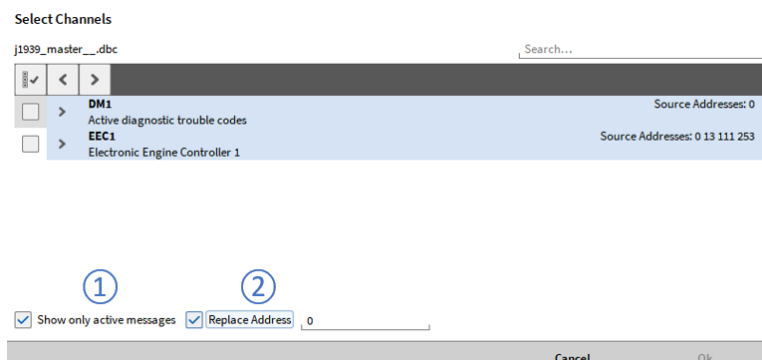

Fig. 7.197: Channel picker for SAE J1939 messages and signals
If a dbc- or arxml file is loaded that contains J1939 messages, the source Address will be displayed when Show only active messages is activated (see ① in Fig. 7.197). By Selecting Replace Address it is possible to replace the current source address of the dedicated mes- sage by a user defined one (see ② in Fig. 7.197).